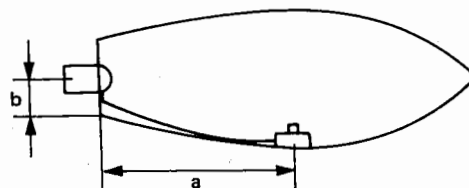

Fig.1.1 Simplified method of measuring the remote control cable length $(a + b) + 300$
- 1) The Tohatsu Remote Controller RC3D is available as a kit. The kit includes a remote-control box assembly fitted with a safety switch assembly, a mounting parts assembly, and screws. Measure the mounting length of the remote controller and the length necessary to allow the engine to swing. Then prepare a control cable and stop cable best suited for the size of the boat. (Fig.1.1)